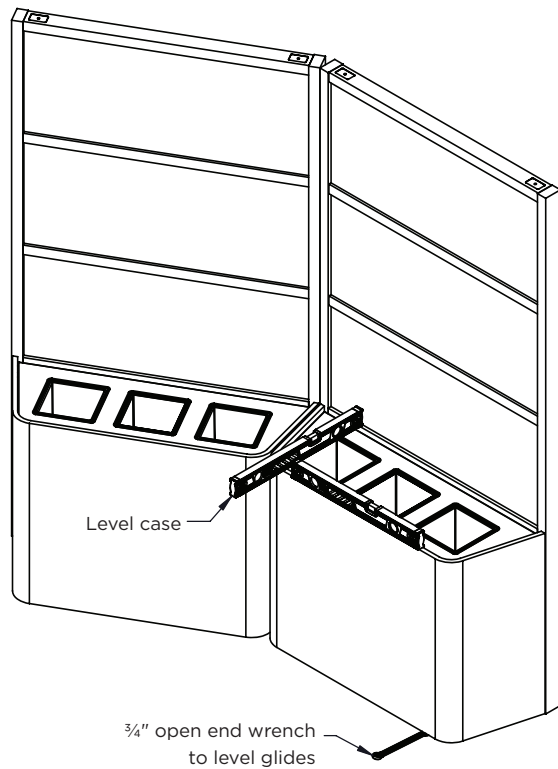
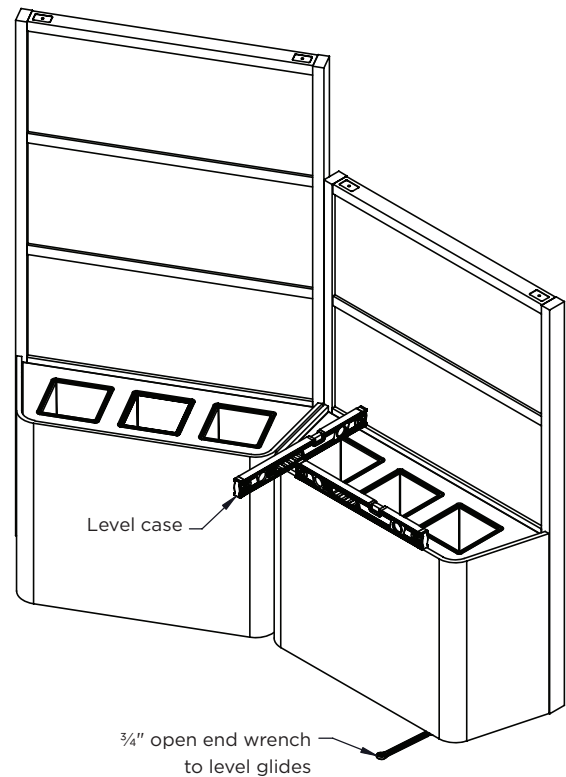

Figure 5D
Figure 5E
**Note:** Reference **Figure 5D** for 90"h to 90"h planters and **Figure 5E** for 90"h to 72"h planters